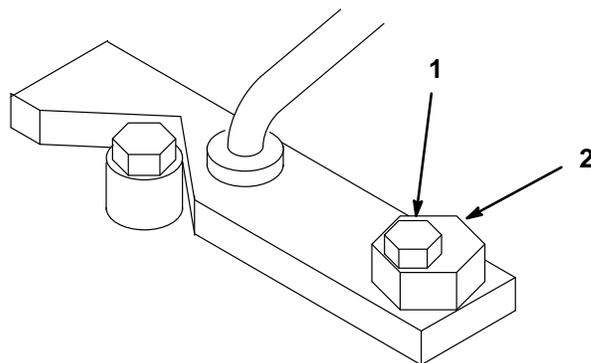

Figure 28
8. Loosen lock bolt in cam. Rotate cam until wheel rotation stops (Fig. 28). Hold cam and tighten lock bolt securely.